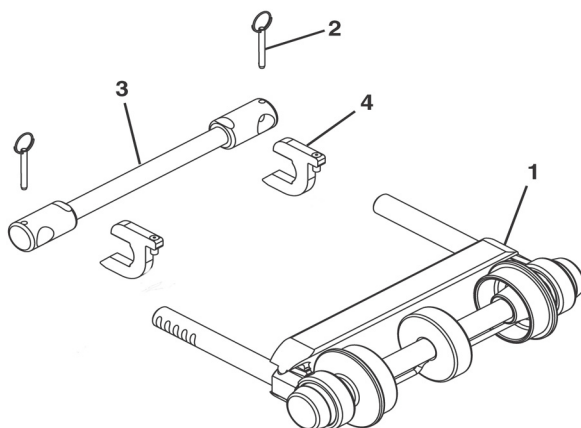

Figure 17
Typical Tip Up Tail Components (**Figure 17**)
Adjust the acorn nuts (Figure 17, item 5) on the key stops (Figure 17, item 4) to raise or lower the tip up tail assembly.